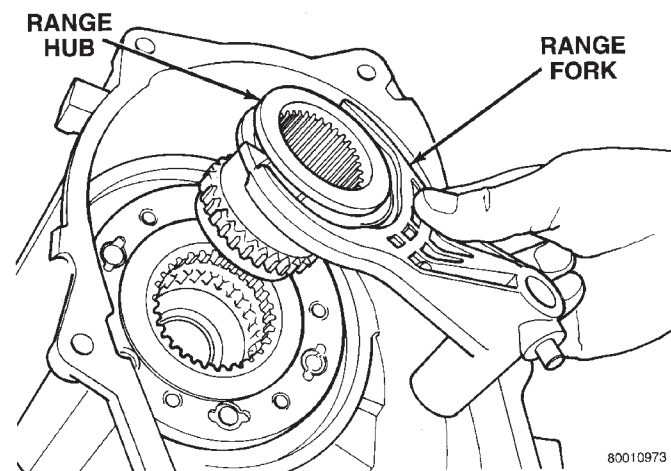

Fig. 36 Range Fork And Hub Removal
- (8) Remove range fork retaining ring. Remove range fork and hub as an assembly (Fig. 36). Note fork position for installation reference.